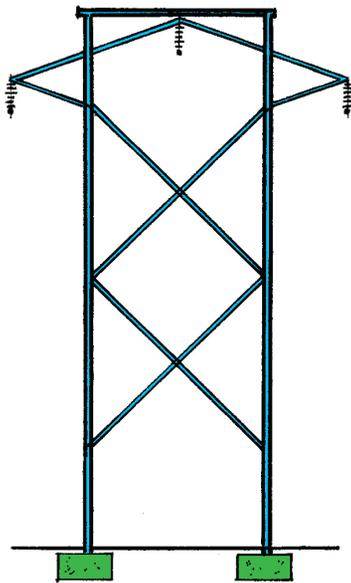
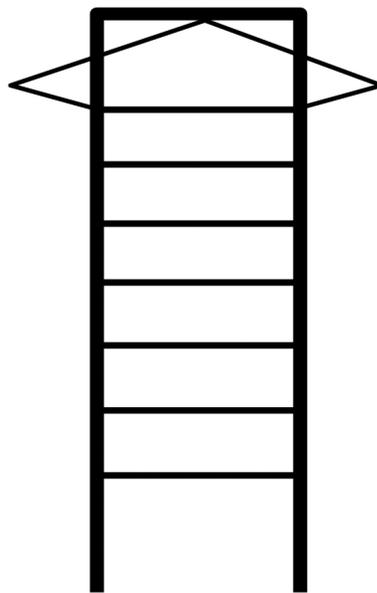
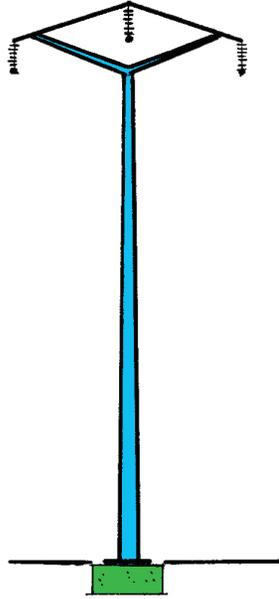

Figure 24
Figure 25
Figure 26
2. Why do you think the pylon in Figure 24 is designed the way it is, and not in the way shown in Figure 25?
The pylons in Figures 26 and 28 are solid structures made from concrete. All the other pylons are steel frame structures.
3. What do you think is indicated by the green parts in Figure 24 and Figures 26 to 29?